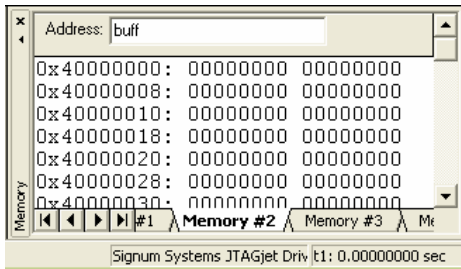

FIGURE 34 The Memory window showing the `buff[]` buffer at address 0x40000000 filled with null characters.
3. From the View menu, open the Disassembly window and position the source window with the file main.c in it beside the Disassembly window. Both windows show that code was executed until the function main() at address 0x000001AC (Figure 34).